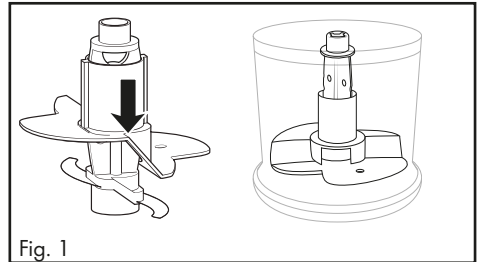

Fig. 1
- For 100 ml of cream, place it onto the blade holder **6** so that the whisk attachment **11** is in contact with both blades **8** and clicks into place (fig. 1):